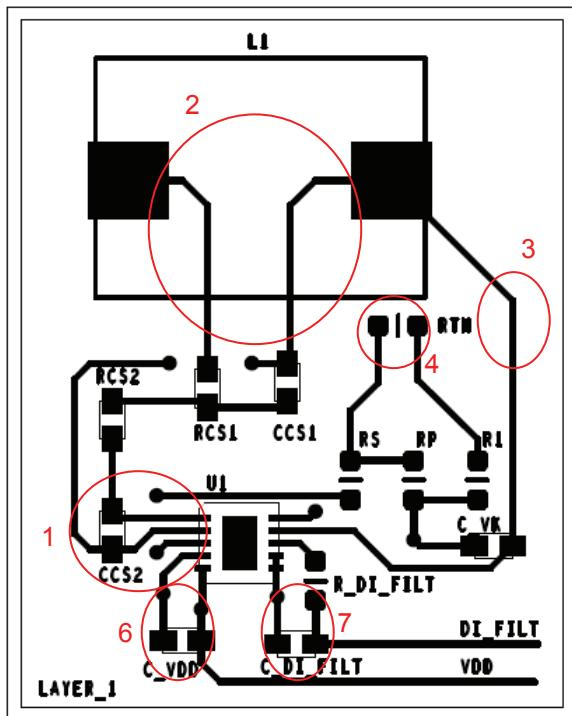

Figure 8 Layer 1
1. Place the capacitor Ccs2 close to the VO and VCS pins of the IR3721. Treat VO and VCS as a differential signal pair back to the IC as shown in the elliptical area designated #1 of figure 8.
2. Sense the inductor (or shunt) Kelvin style at its terminals. Route the leads back as a differential pair. Refer to area #2 of figure 8.
3. Route signal VOUT back to the IC VK pin on its own dedicated trace. Refer to area #3 of figure 8.
4. Place the thermistor near the inductor. Refer to area #4 of figure 8. Route the thermistor leads back to the rest of the network using differential traces. Mount the rest of the thermistor network consisting of Rs, Rp, and R1 close to the IC.
6. Bypass IC VDD pin 5 to GND pin 4 with a high quality 0.1  $\mu$ F ceramic capacitor. Refer to area #6 of figure 8.
7. Bypass the IC VK pin to GND with a high quality 0.1  $\mu$ F ceramic capacitor. Refer to area #7 of figure 8.